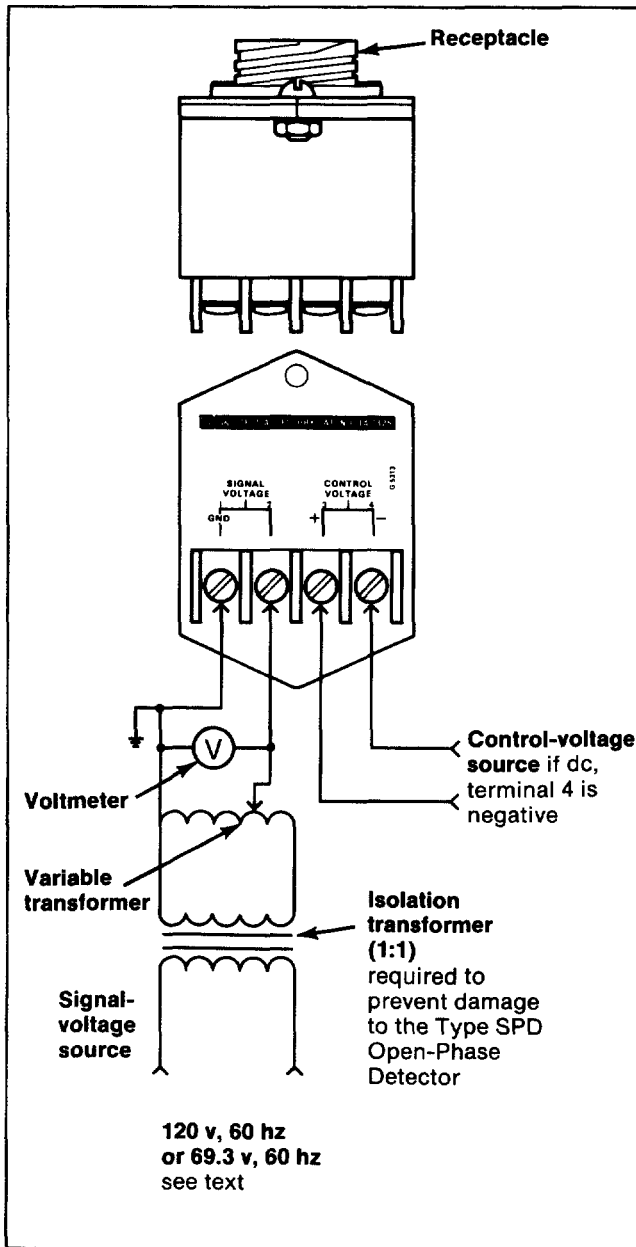

Figure 3. S&C Test Accessory Catalog Number TA-1325 and connection diagram.
If it is going to be some time before high voltage is connected to the switchgear, the user may wish to perform a preliminary checkout so as to expedite full service once high voltage is available. For this reason an S&C Test Accessory, Catalog Number TA-1325, is offered; this device permits checking of the operation of the Type SPD Open-Phase Detector by means of an external single-phase signal input and a separate control source. See Figure 3. The test accessory consists of a receptacle interconnected to a terminal strip. When the test accessory is utilized, an unbalance (open-phase) condition can be simulated and precise adjustment-dial settings for voltage-unbalance level and time delay may be achieved. However, the burden resistor adjustments cannot be accomplished until high voltage has been applied to the switchgear. Proceed as follows.
4. Make up control-voltage and signal-voltage connections to the test-accessory terminal strip as shown in Figure 3.